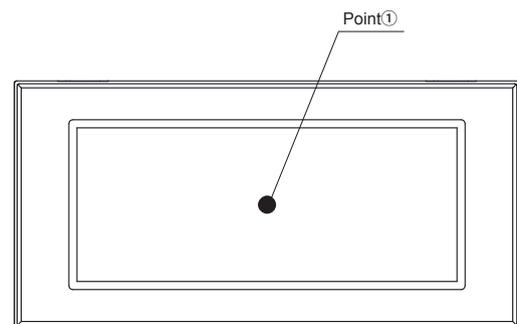

Fig.8.4 Temperature measurement point (-N model)
- Please refer to Fig 8.4 for the position of Point①. "Maximum temperature of measurement points", "Life expectancy" and "Warranty" is different from standard models. Please refer to Table 8.3 to Table 8.14.